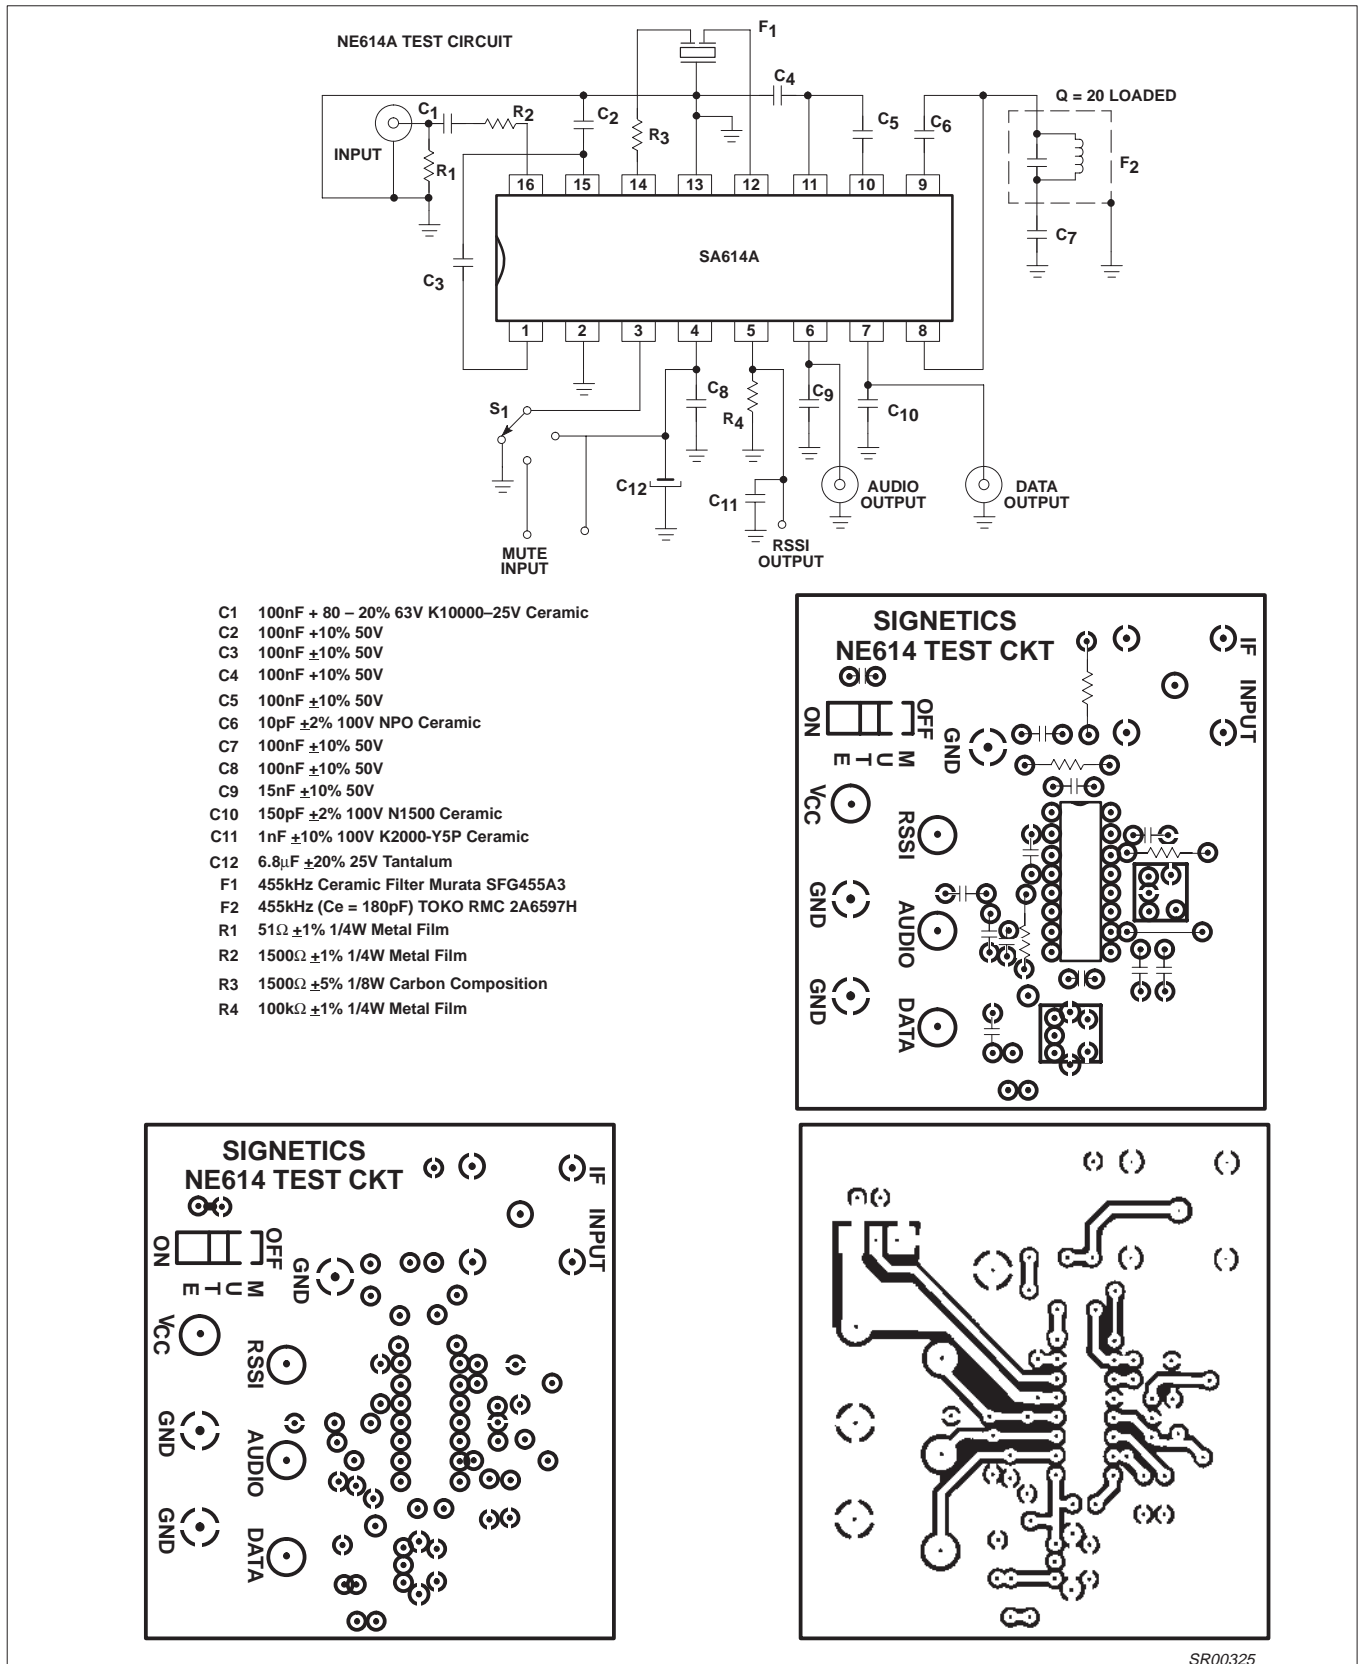
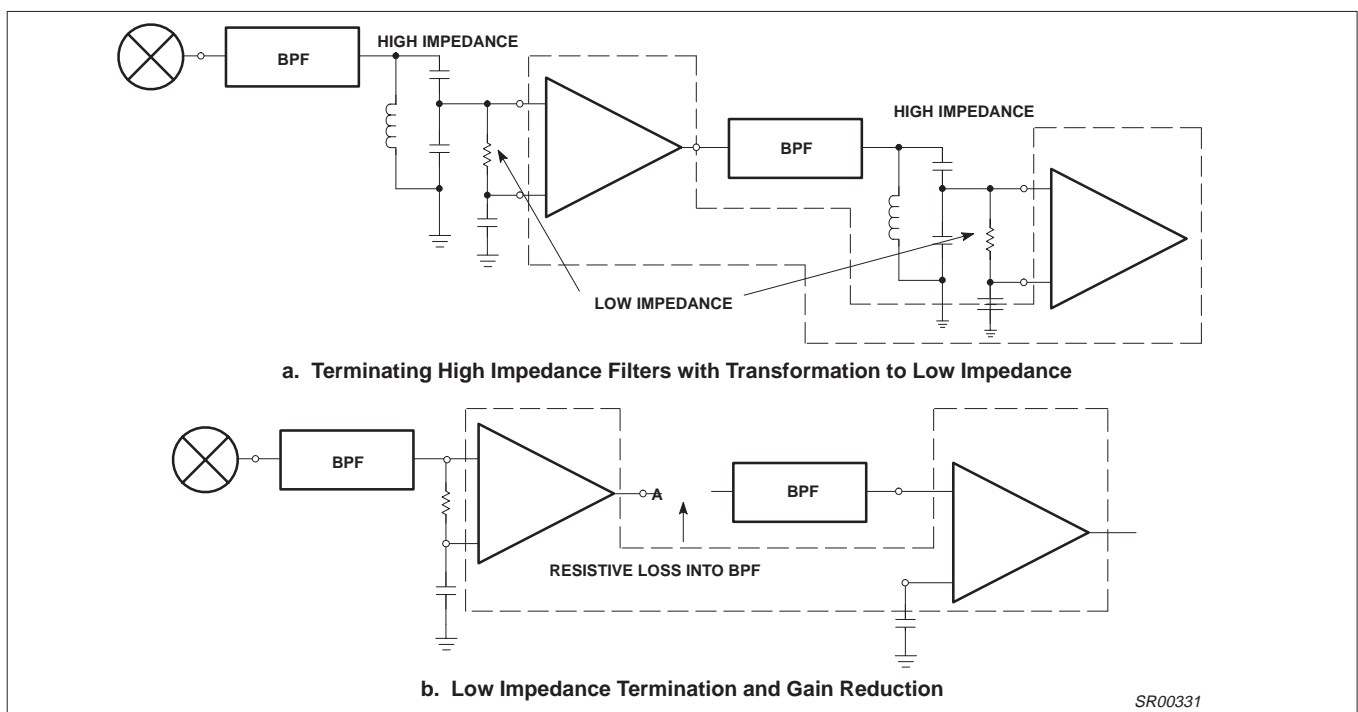

Figure 3. SA614A Test Circuit
Figure 9. Practical Termination
Typical reading at  $T_A = 25^\circ\text{C}$ ;  $V_{CC} = \pm 6\text{V}$ , unless otherwise stated. IF frequency = 455kHz; IF level = -47dBm; FM modulation = 1kHz with  $\pm 8\text{kHz}$  peak deviation. Audio output with C-message weighted filter and de-emphasis capacitor. Test circuit Figure 3. The parameters listed below are tested using automatic test equipment to assure consistent electrical characteristics. The limits do not represent the ultimate performance limits of the device. Use of an optimized RF layout will improve many of the listed parameters.
The SA614A is a very high gain, high frequency device. Correct operation is not possible if good RF layout and gain stage practices are not used. The SA614A cannot be evaluated independent of circuit, components, and board layout. A physical layout which correlates to the electrical limits is shown in Figure 3. This configuration can be used as the basis for production layout.
There are three primary ways to deal with regeneration: (1) Minimize the feedback by gain stage isolation, (2) lower the stage input impedances, thus increasing the feedback attenuation factor, and (3) reduce the gain. Gain reduction can effectively be accomplished by adding attenuation between stages. This can also lower the input impedance if well planned. Examples of impedance/gain adjustment are shown in Figure 9. Reduced gain will result in reduced limiting sensitivity.
The high gain and bandwidth of the SA614A in combination with its very low currents permit circuit implementation with superior performance. However, stability must be maintained and, to do that, every possible feedback mechanism must be addressed. These mechanisms are: 1) Supply lines and ground, 2) stray layout inductances and capacitances, 3) radiated fields, and 4) phase shift. As the system IF increases, so must the attention to fields and strays. However, ground and supply loops cannot be overlooked, especially at lower frequencies. Even at 455kHz, using the test layout in Figure 3, instability will occur if the supply line is not decoupled with two high quality RF capacitors, a 0.1µF monolithic right at the VCC pin, and a 6.8µF tantalum on the supply line. An electrolytic is not an adequate substitute. At 10.7MHz, a 1µF tantalum has proven acceptable with this layout. Every layout must be evaluated on its own merit, but don't underestimate the importance of good supply bypass.
At 455kHz, if the layout of Figure 3 or one substantially similar is used, it is possible to directly connect ceramic filters to the input and between limiter stages with no special consideration. At frequencies above 2MHz, some input impedance reduction is usually necessary. Figure 9 demonstrates a practical means.